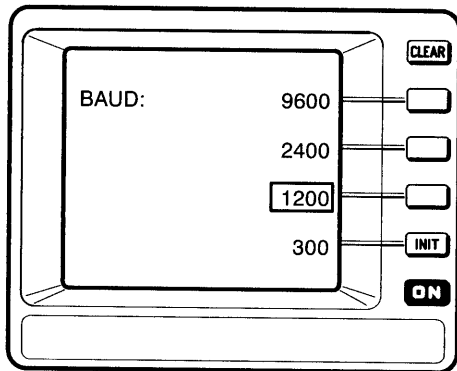

Figure A-10: The Baud Settings Menu
- Step 3:** Press the menu button next to the menu item **BAUD**. This accesses the baud settings menu, as shown in Figure A-10. The selected baud rate appears boxed.